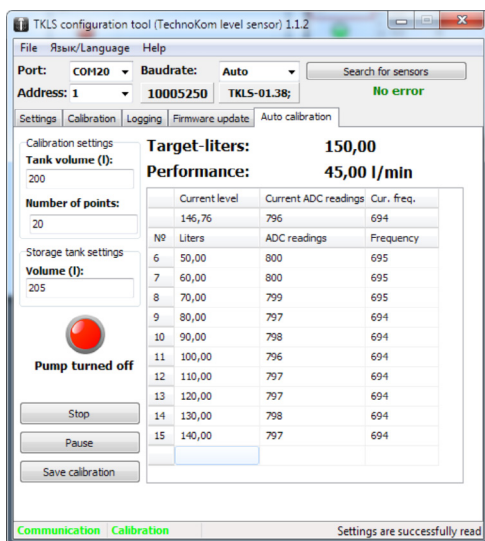

Fig.4.Calibration finished.
- As all calibration points have been calculated, the calibration finishes (Fig.4). After that the calibration table can be saved in an external file by pressing the Save calibration button. The calibration table is saved in text file in the \Tare folder located in root directory of the configuration tool.